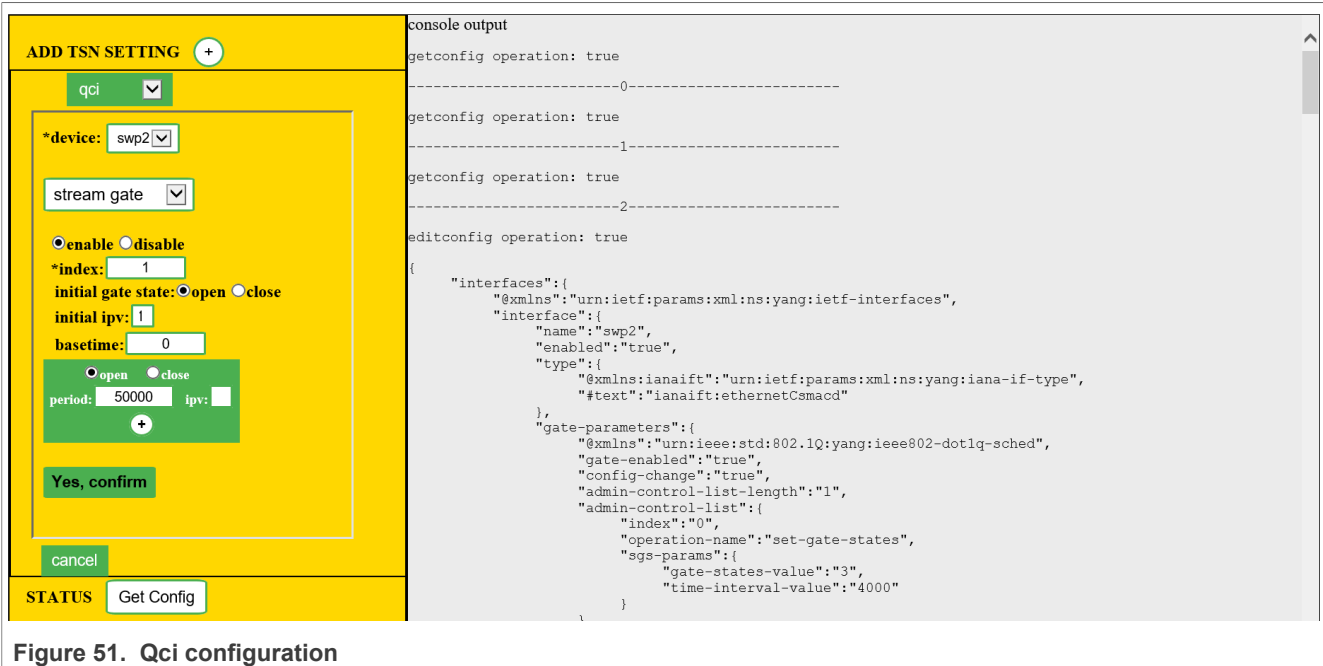

Figure 51. Qci configuration
- **Qci Configuration:** Selecting 'qci' option setting displays the options as shown in Figure 51.